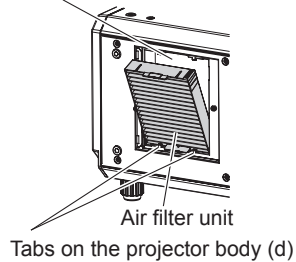

Fig. 5
- ii) Pull out the air filter unit. **(Fig. 5)**